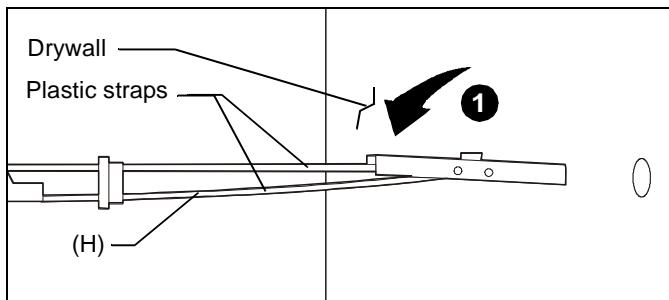

Figure 27
1. Hold metal channel on anchor (H) flat alongside plastic straps and slide channel through hole. (See Figure 27)